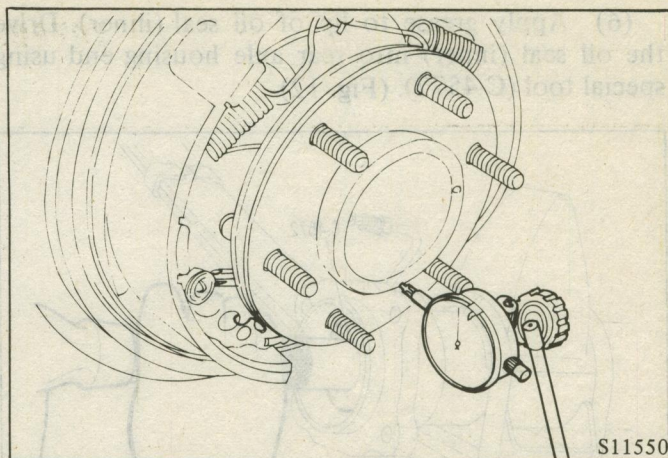

Fig. 16 Axial Play of Axle Shaft
(9) Using a dial gauge, check the axial play of the axle shaft. (Fig. 16)